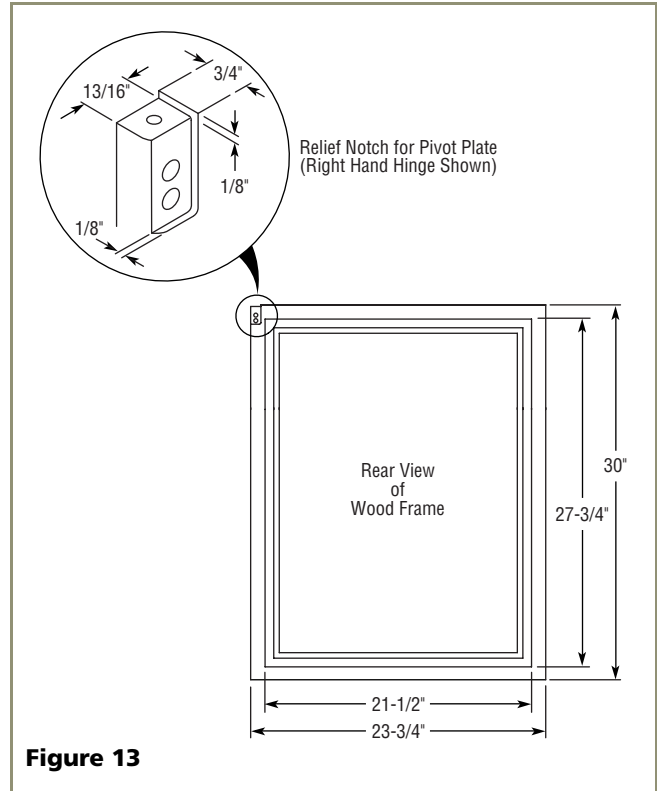

Figure 13
- Create an overlay frame to the dimensions shown in **Figure 13**.